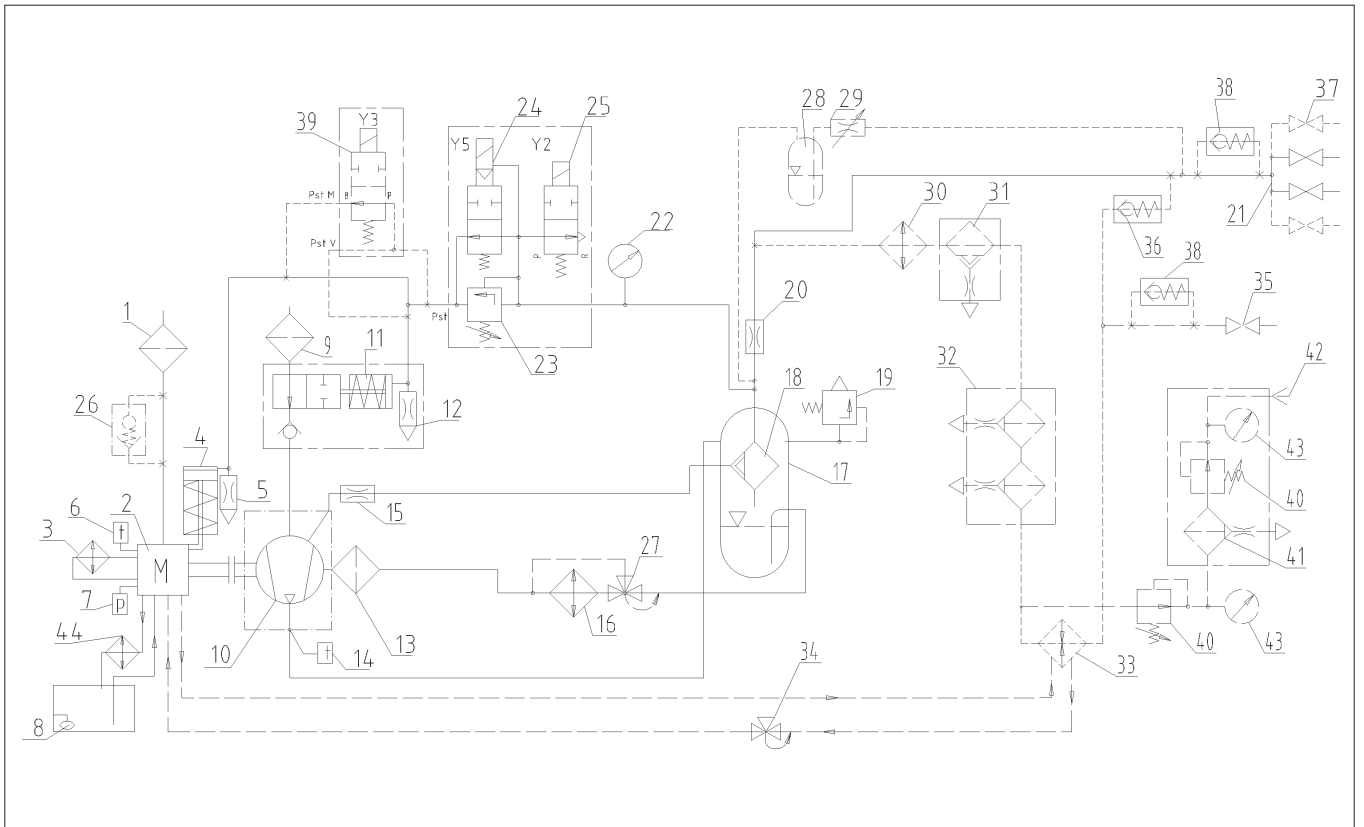

Fig. 5
4.2 Functional description (see fig.5)